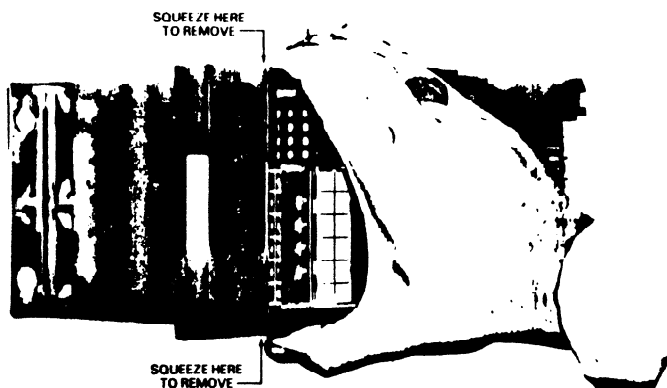

Figure 3-10. Proper Module Removal
22. To remove a module, squeeze the snap locks top and bottom (see figure 3-10) towards the center and pull the module straight out. Squeeze force should be approximately 10 pounds (5 Kg) and pull force 8-12 pounds (4-5 Kg).